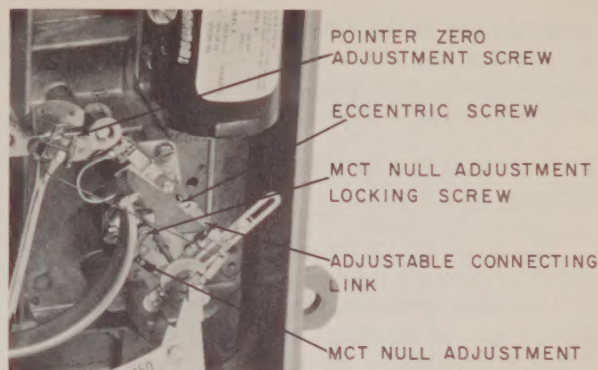

FIGURE 8 - Pre-Service Adjustments
4. Apply corrected head value to Transmitter. Observe indicating pointer reading. Turn eccentric screw on adjustable connecting link (Figure 8) until pointer reads zero scale.
6. If Receiver pen does not read minimum chart, loosen Transmitter MCT null adjustment locking screw (Figure 8) and turn MCT null adjustment to obtain correct reading. Retighten locking screw.
7. If Transmitter indicating pointer does not read minimum scale ($\pm 1/32$ -inch), turn pointer zero adjustment screw (Figure 8) clockwise to decrease reading or counterclockwise to increase reading.
8. Apply midrange and maximum measured range pressures plus corrected head value to Bourdon tube. Observe (1) Receiver chart readings and (2) Transmitter indicating pointer readings. If readings are correct, disconnect Transmitter from calibration setup and place in service as outlined under "Operation". If readings are incorrect, refer to "Calibration of Transmitter", page 12.
2. Apply maximum measured range pressure minus corrected head value to Bourdon tube. Observe indicating pointer reading. Turn eccentric screw on adjustable connecting link (Figure 8) until pointer reads maximum scale.
4. If Receiver pen does not read minimum chart, loosen Transmitter MCT null adjustment locking screw (Figure 8) and turn MCT null adjustment to obtain correct reading. Retighten locking screw.
5. If Transmitter indicating pointer does not read minimum scale ($\pm 1/32$ -inch), turn pointer zero adjustment screw (Figure 8) clockwise to decrease reading or counterclockwise to increase reading.
6. Apply midrange and maximum measured range pressures minus corrected head value to Bourdon tube. Observe (1) Receiver chart readings and (2) Transmitter indicating pointer readings. If readings are correct, disconnect